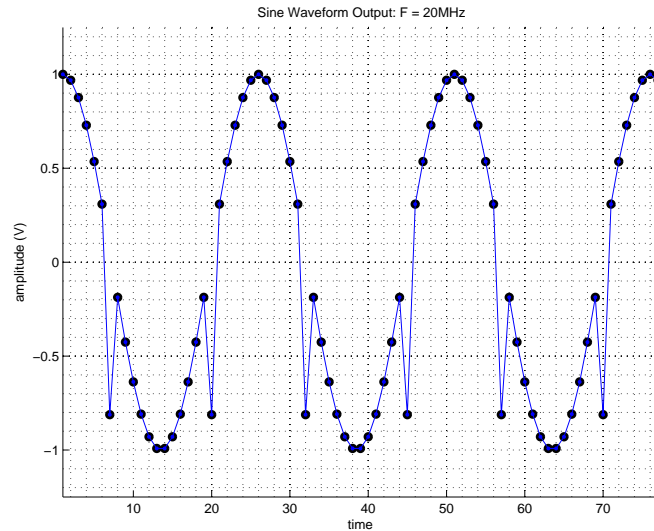

Figure 4.5: Verilog Simulation: 20MHz Sine Wave with bad sample point
- xii. Once the DCLK and CLKIN were generated from a common clock the DAC5682Z still looks incorrect, but is approximately 20MHz which was the intended frequency of the waveform file being played back from QDR-II SRAM. I decided to simulate the waveform playback and store the 16-bit DAC Data in a Matlab data file. Plotting the waveform in the time domain revealed the incorrect waveform shown in Figure 4.5.
- xiii. The waveform shown in Figure 4.5 led me to believe the problem was with the waveform generation. The method I used to generate the 20MHz sine waveform was:
The hexadecimal representation was less than 3 digits, and the Perl script assumed the hexadecimal data contained 4 digits. The Perl script was grabbing data from -1 to 2 instead of 0 to 3. The sample's LSB digit was copied to the MSB position resulting in a negative value instead of a small positive number (i.e., 8808 instead of 0808). This explains the waveform shown in Figure 4.5. To fix this problem I created a Perl sub-routine to check each hexadecimal value for at least 4 digits. If the hexadecimal value contained less than 4 digits it would pad the value with the appropriate number of zeros.